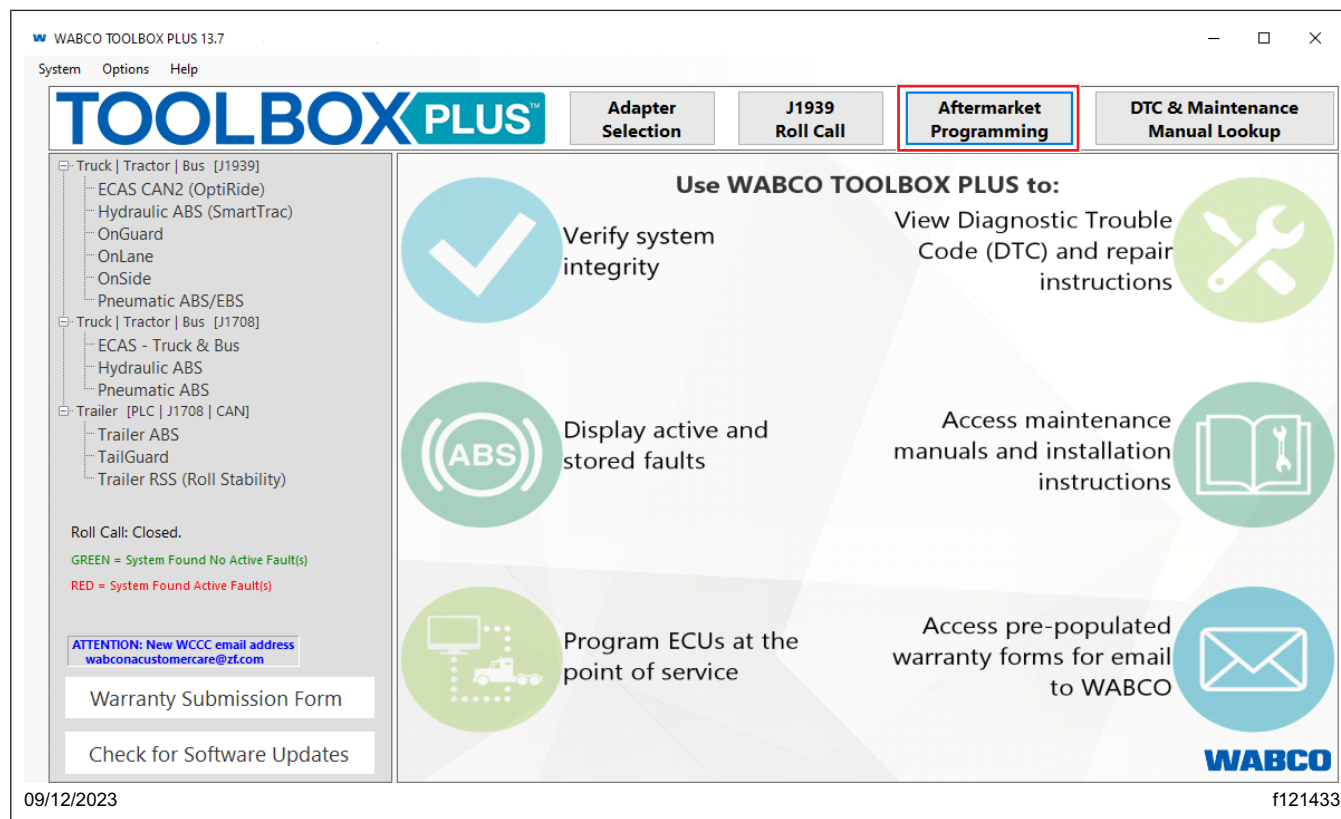

Fig. 11, Selecting Aftermarket Programming
13. Open WABCO TOOLBOX™ (version 13.7 or higher at the time of publication). In the main menu, select 'Aftermarket Programming.' See Fig. 11.